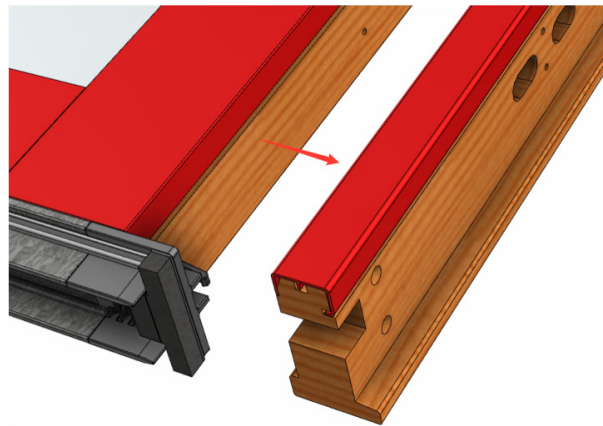

Fig BPT 3
- Replace the # 8 x 2 1/2" Screws to the Astragal that were removed in Fig. BPT 3, repeat applying the same screws the full length of the Astragal into all the countersunk holes.